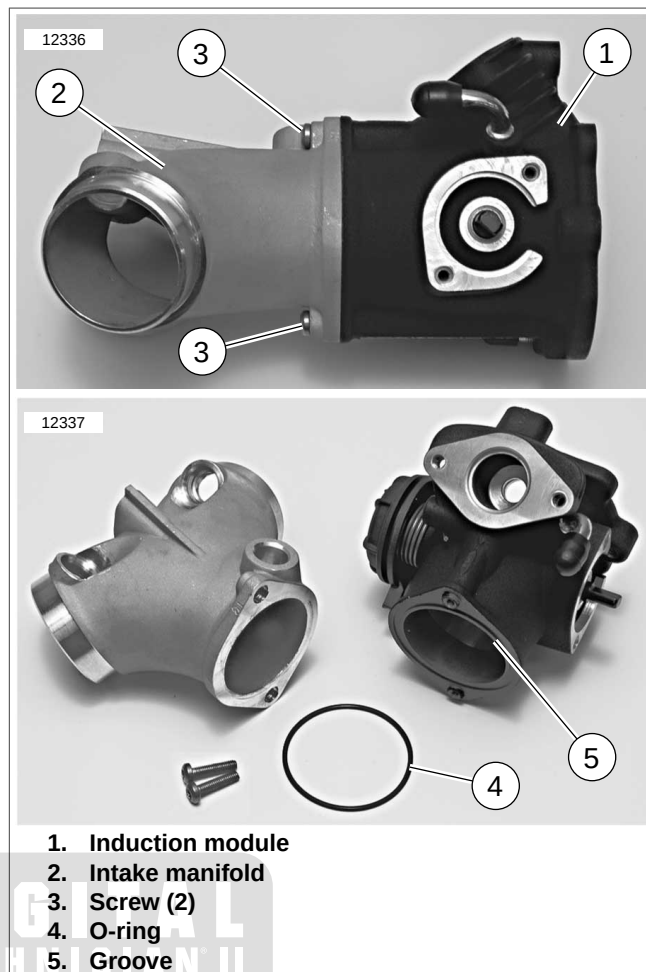

Figure 4-45. Induction Module Assembly
4. See Figure 4-45. Remove two screws (3) to separate induction module (1) from intake manifold (2). Discard o-ring (4).
1. See Figure 4-45. Place **new** o-ring (4) into groove (5) in induction module (1) mating surface.
2. Mate induction module to intake manifold (2). Secure with two screws (3). Tighten screws to 35 **in-lbs** (4.0 Nm).